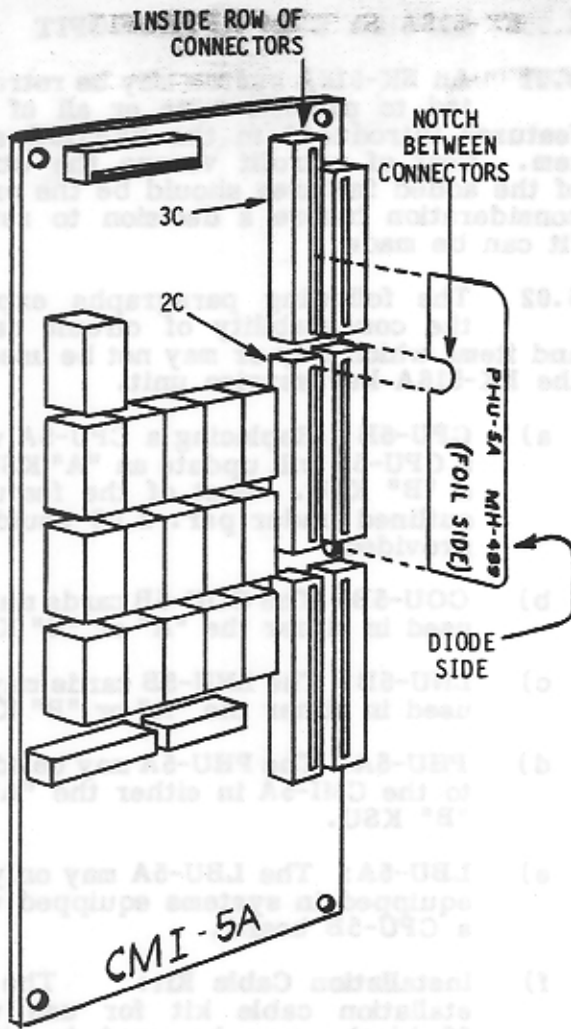

Figure 5 - PHU-5A Installation
4.23 The CMI-5A card has a flexible printed circuit (PHU-5A Hold Prevention Circuit) installed in the inside 2C/3C connectors. Refer to figure 5. Install the PHU-5A with the notch between the inside 2C/3C connectors. The foil side of the circuit is toward the relays on the CMI card (diodes next to the outside row of connectors).
card installed. This is required to facilitate flexible cable connections between the CMI-5A and the added COU-5B cards. The PHU-5A is installed on the COU-5B in the same manner as on the CMI-5A. Refer to figure 5 and par. 4.23.